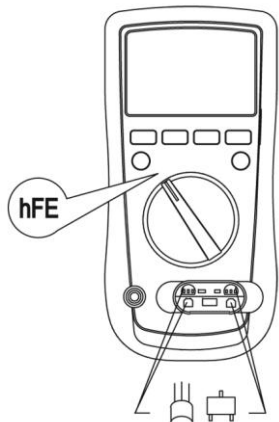

figure 10
I. Transistor hFE Measurement (GDM-398 only) (see figure 10)
2. Insert the multi-purpose socket into the input terminal as shown on figure 10.